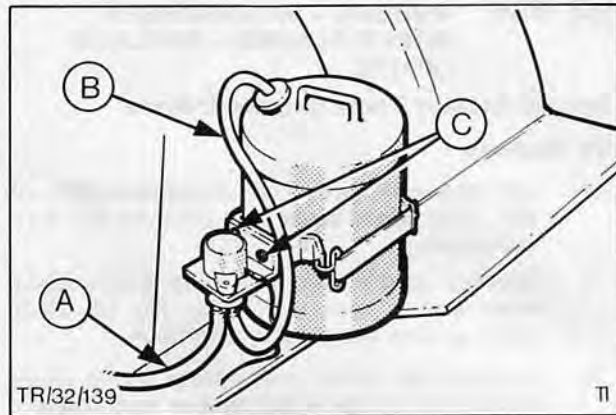

Fig. 38. A – Hose to screen
2. Disconnect hoses and wiring from pump, Figs. 38 or 39.